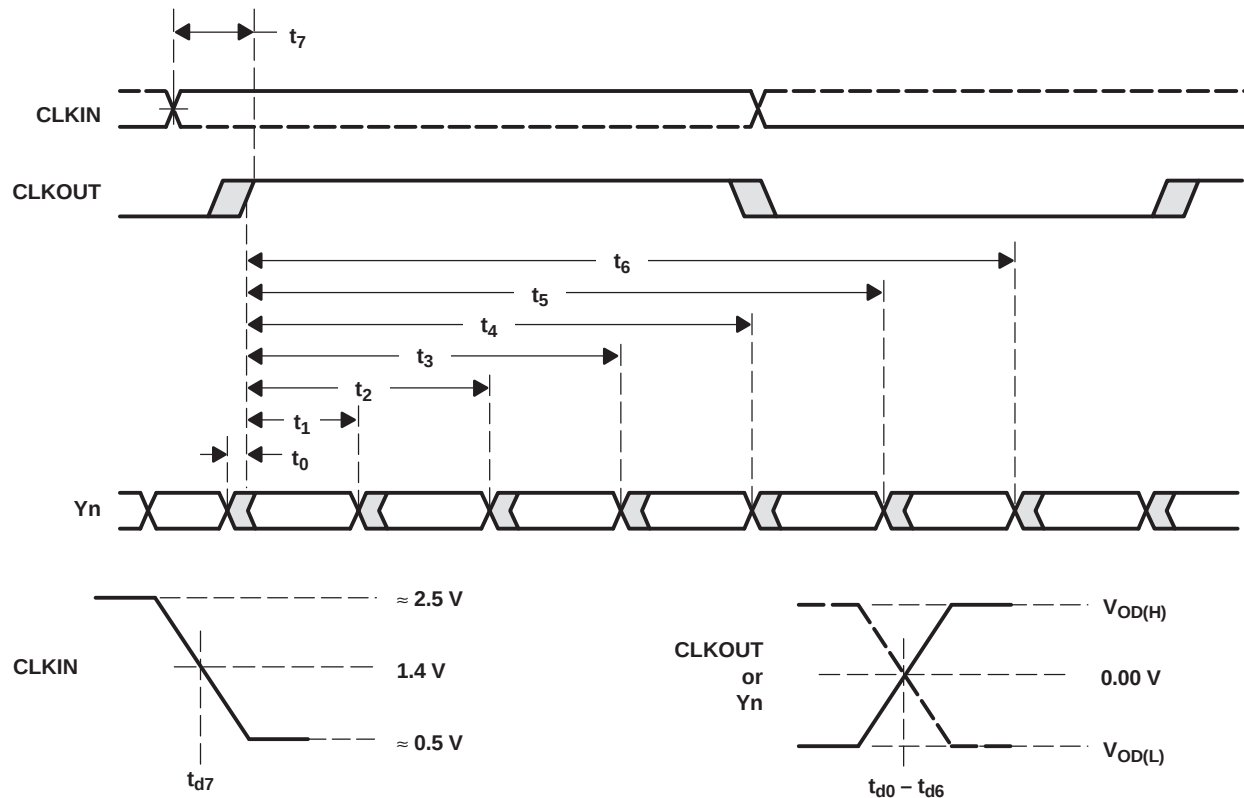

Figure 5. Timing Definitions
| $t_0$ Delay time, CLKOUT↑ to serial bit position 0                   | $t_c = 15.38 \text{ ns } (\pm 0.2\%)$ , Input clock jitter  < 50 ps (2) ,See <a href="#">Figure 5</a> | –0.20                   | 0                       | 0.20 | ns   |
| $t_7$ Delay time, CLKIN↓ or CLKIN↑ to CLKOUT↑                        | $t_c = 15.38 \text{ ns } (\pm 0.2\%)$ , Input clock jitter  < 50 ps (2) ,See <a href="#">Figure 5</a> |                         | 4.2                     |      | ns   |